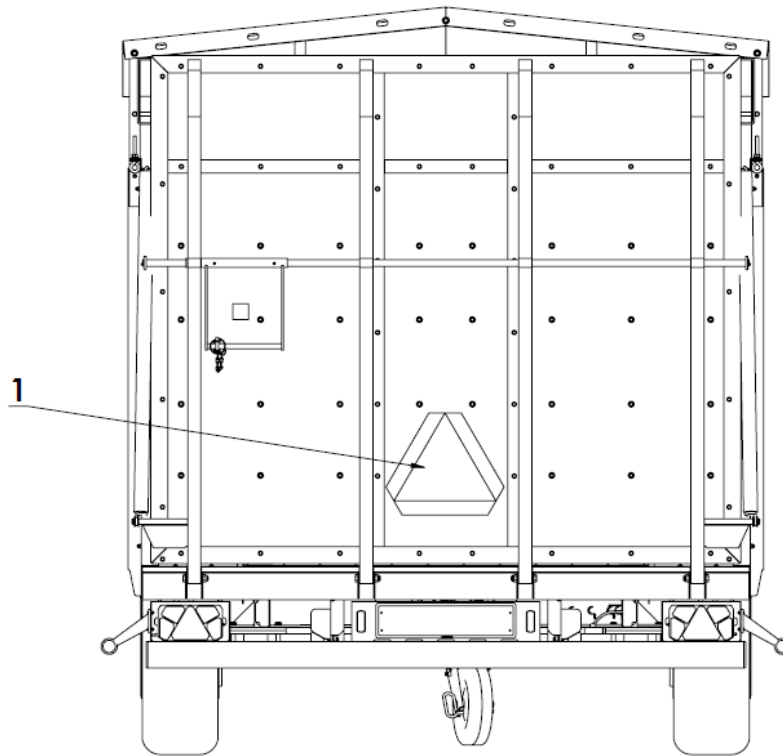

Fig. 2. T-677 trailer (view from rear)
- The trailer is to be secured against rolling by wedges (item 6 fig. 2).
- While driving on public roads the trailer should be equipped with a certified or approved warning triangle. A triangular plate should be placed on the rear wall for slow-moving vehicles (1) as shown below (Fig. 2).
The chassis of the trailer consists of the following parts shown in figure 2.